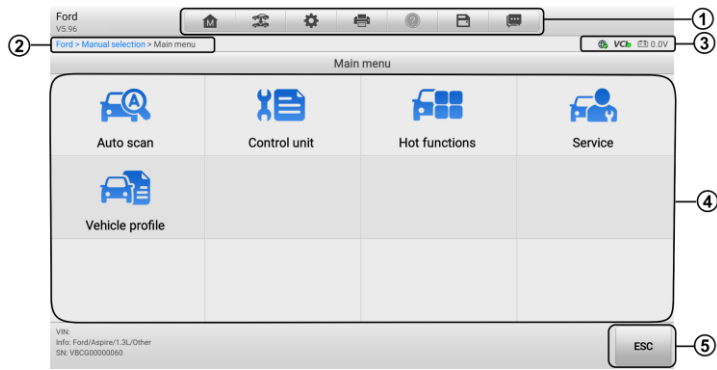

Figure 4-5 Diagnostics Main Menu Screen
3. Select **Auto Detect**. The tablet starts VIN scanning on the vehicle's ECU. Once the test vehicle is successfully identified, the system will guide you to the Diagnostics Main Menu Screen (Figure 4-5).